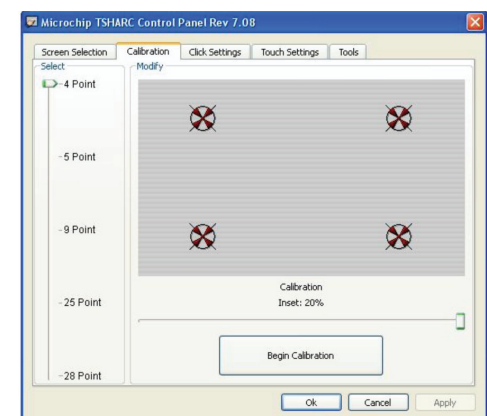

Figure 7
2. Default Calibration process is Four-Point, a widely applicable general calibration; it compensates for skew and some edge linearity anomalies (Figure 7),
3. Once returned to the Calibration tab, select, "OK" or "Apply" to save settings. If using multiple touch-screen monitors return to the "Screen Selection" tab shown in Figure 7 and select another monitor to calibrate following this same Calibration Process for each monitor.